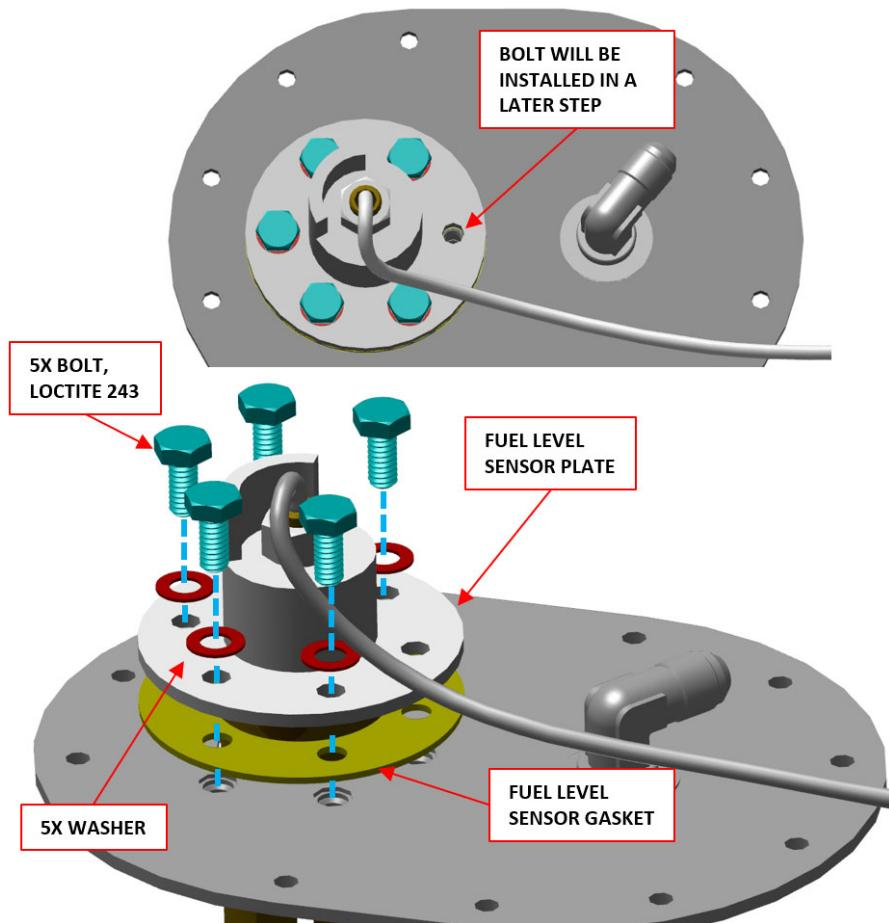

Figure 11 – Fuel level sensor installation.
1. Install new PROBE, FUEL LEVEL SENSOR onto fuel tank access plate, Figure 11 & 12: